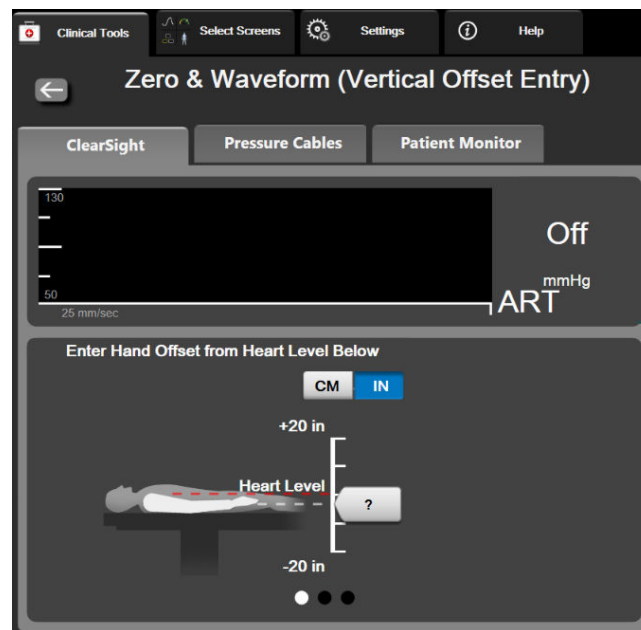

Figure 11-6: Zero & Waveform screen – Vertical Offset Entry
3. The **Zero & Waveform** screen in this mode (shown in Figure 11-6 on page 198) will depict a vertical scale bar to represent the offset of the hand relative to the heart; the heart level is set at zero. A positive offset signifies a patient position where the hand is above the heart. Select the units of the scale bar: **CM** or **IN**.